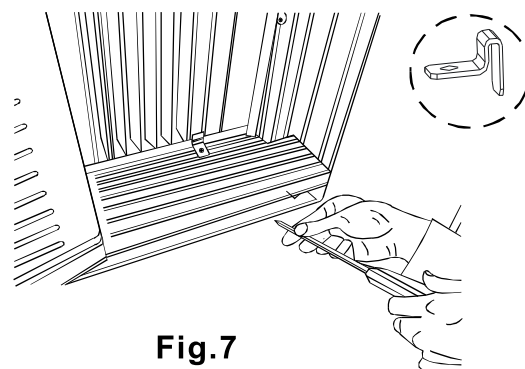

Fig. 7
- A. Place the frame lock between the frame extensions and the window sill as shown (Fig. 7). Drive $3/4''$ (19mm) or $1/2''$ (12.7mm) locking screws through the frame lock and into the sill.